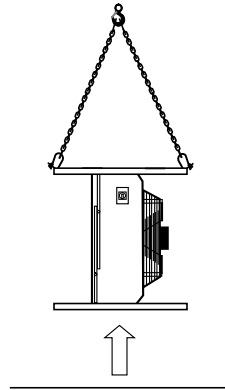

Fig 1
- 2 In line with horizontal discharge lifting instructions, lift the unit sufficiently to gain access to the lower leg fixings as shown in Fig 1.